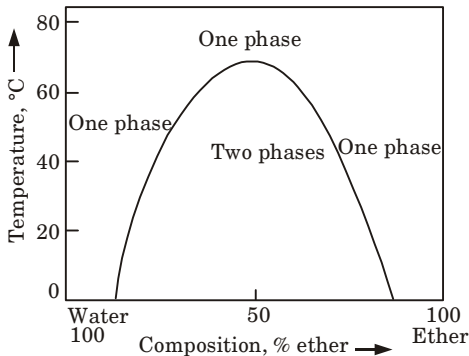

Fig. 3.6.1. Schematic representation of the solubilities of ether and water for each other.
6. Now, if we plot the above observations on a graph, with temperature as ordinate and composition as abscissa, we get a curve as shown in (Fig. 3.6.1). This curve is known as phase diagram.